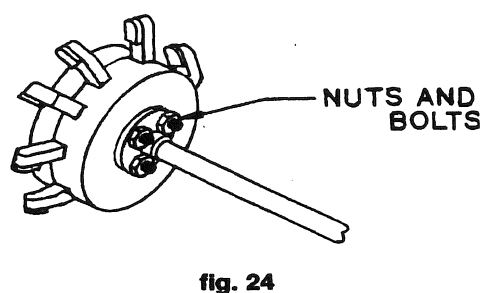

fig. 24
The cutter head is fastened to the mounting flange on the spindle with four 3/8-16 x 1-3/4" bolts. Be sure to check them frequently for tightness.(Figure 24).
1. Remove entire cutter head (see Figure 24) by removing the 4 ea. 3/8"-16 nuts and bolts.